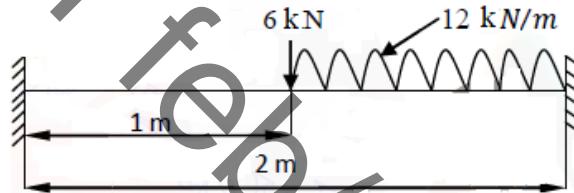

Figure 1
2. For the beam and loading shown in figure 1 calculate the nodal displacements at centre of beam. Take $E = 210 \text{ GPa}$, $I = 6 \times 10^{-6} \text{ m}^4$. [15]